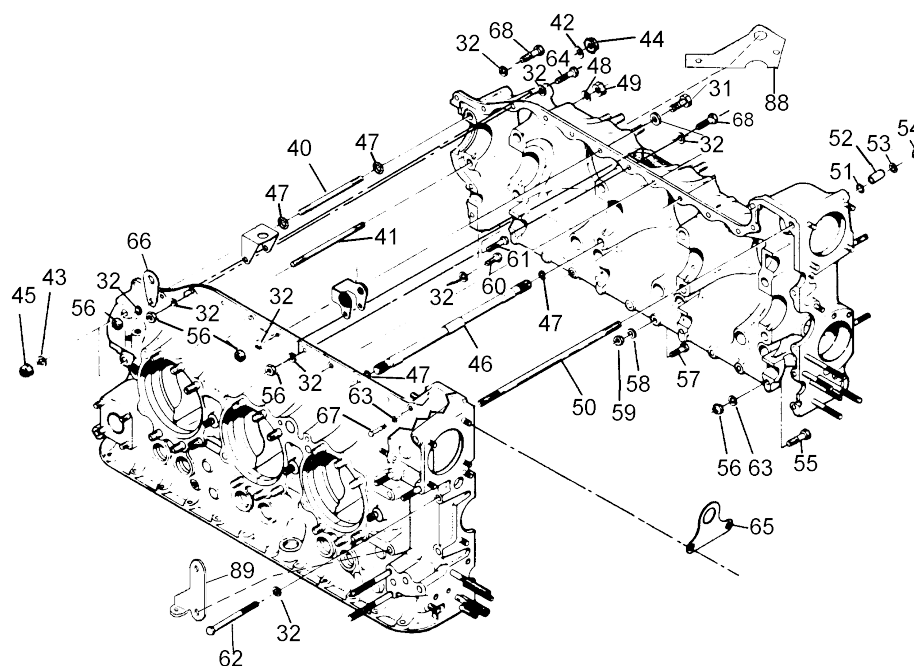

Figure 17-9. Permold Crankcase Fasteners
2. Use an O-ring Installation Tool ("Special Tools" in Section 3) to install eight new 0.5" x 10.75" through-bolts (Figure 17-9)(46) with new o-rings (47) in positions 37 through 44. If necessary, use a mallet to tap the through-bolts.
3. Install three new 0.31" x 4.00" tie bolts (62) with washers (32) in positions 69, 71 and 72; tighten, but do not torque the tie bolts (62).
4. Install a new 0.4375" x **A** **B** 5.31" (**C** 6.74") through-bolt (40) with new O-rings in position 45.
5. Install a new 0.4375" inch x **A** **B** 6.19" (**C** 6.96") through bolt (41) with new O-rings in position 46.
6. Install 0.88" flange washer on the 2-4-6 side of through-bolts (40 & 41) followed by 0.45" washers (42) and flange nuts (44) on both sides of the through bolts (40 & 41).